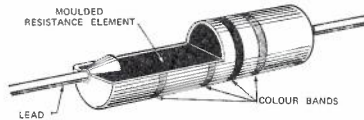

FIG. 3. ONE TYPE OF CARBON COMPOSITION RESISTOR CONSTRUCTION.
- **CARBON COMPOSITION.** The resistive element is a mixture of carbon and a variety of binders. In one manufacturing process the resistive materials, insulation and leads are combined into an integrally moulded structure (Fig. 3). In another process the resistive element is coated on the outside of a tube, and an insulating jacket is moulded around the assembly after the leads have been connected.
Carbon composition resistors are available with resistance values from  $1 \Omega$  to  $22 \text{ M}\Omega$ , with power ratings from about 0.1 watt to 5 watt and can be used at frequencies up to several MHz. The colour bands shown in Fig. 3 indicate component values, and are described in Para. 3.6.